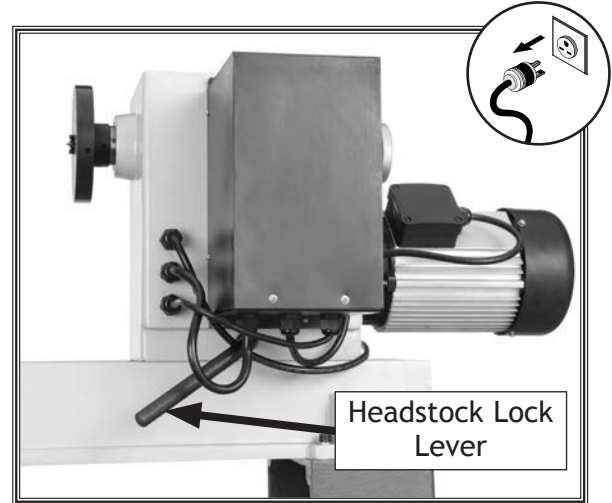

Figure 22. Headstock lock lever location.
2. Loosen headstock lock lever (see Figure 22).